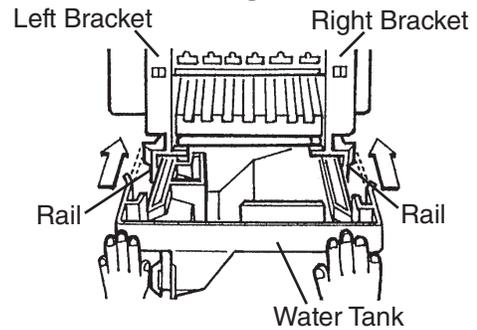

Fig. 45
- 14) Slide in the water tank along the rails at the bottom of the left and right brackets until it locks into place. See Fig. 45.